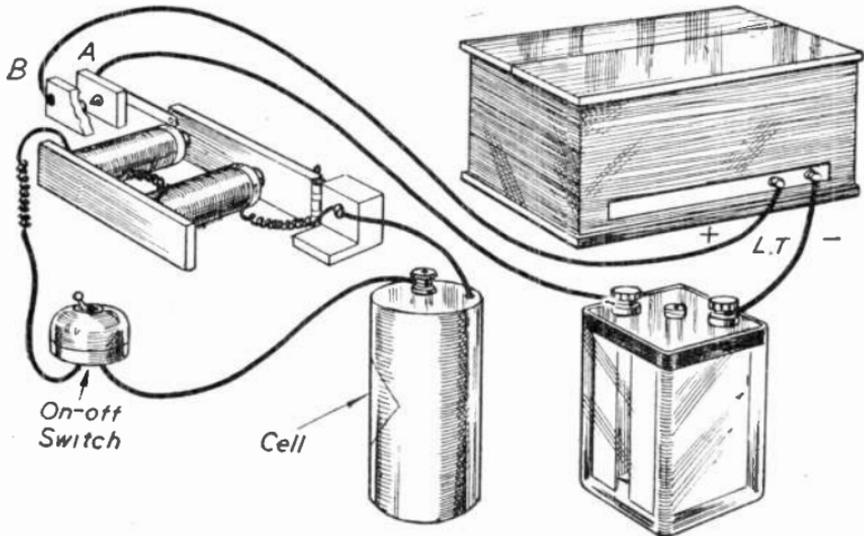

FIG. 352.—A Relay which consists of the Magnets and Armature of an electric bell.
In Fig. 352 the armature of the bell has been extended by a piece of thin ebonite or fibre cemented on. Two small contacts, (A) and (B), made from brass or from an old dismantled bell push, are then mounted close together so that when the armature is attracted to the magnets